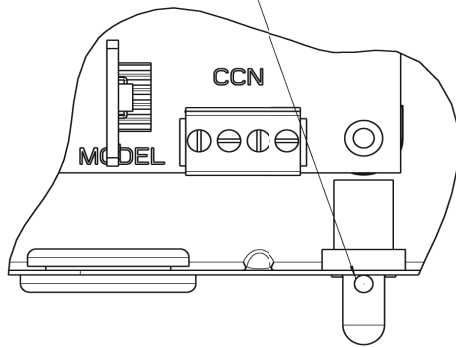
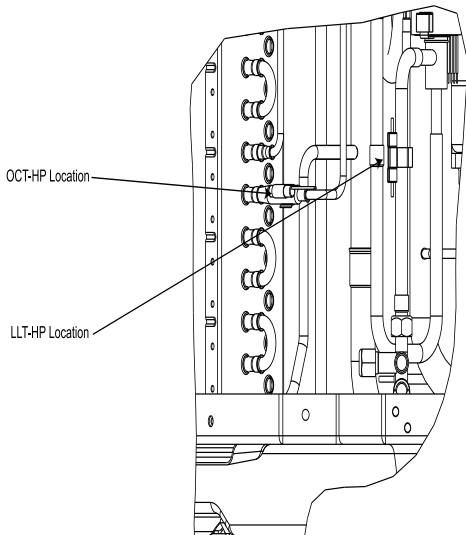
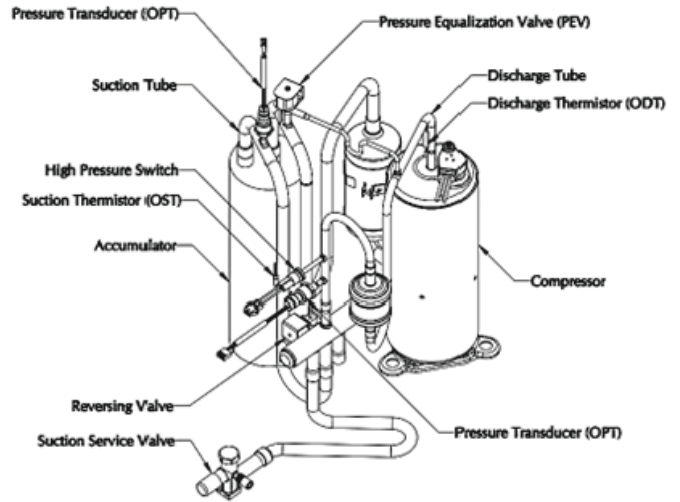

Fig. 33 – OAT Thermistor Mounting Location
Fig. 34 – OCT-HP and LLT-HP Thermistor Mounting Locations
Fig. 35 – OST Thermistor and ODT Thermistor Mounting Locations
**IMPORTANT:** The OAT, OCT/LLT, OST, and ODT thermistors should be factory mounted in the final locations. Check to ensure thermistors are mounted properly (See Fig. 33, Fig. 34 and Fig. 35).
The OAT is a 10K thermistor used for multiple system operations. It provides the outdoor air temperature to the primary control module and Infinity® System Control. It is essential for controlling the system and is used in almost all modes of operation. The sensor is mounted in the control box per Fig. 33. See Table 8 for proper resistances.
The OCT-HP Thermistor is a 10K thermistor used for multiple system operations. This sensor is connected to the PCM through a shared 5-pin connector with OAT-HP and provides the coil temperature to the primary control module and Infinity® System Control. It is used for low ambient operation, defrost control, and other system operations. The sensor must be securely mounted to the stub tube on the outdoor coil. Note that there is only one stub tube used and on most units it is the bottom circuit. See Fig. 34 for proper placement. See Table 8 for proper resistances.
The LLT-HP is a 10K thermistor used for multiple system operations. LLT-HP is connected to the PCM through a separate 3-pin connector and provides to the primary control module and Infinity® System Control. It is used for heating control and subcooling calculation during charging. The sensor must be securely mounted to the liquid tube in between the liquid service valve and the EXV. See Fig. 35 for proper placement. See Table 8 for proper resistances.
The OST is a 10K thermistor used for assisting in EXV control and must be secured on the suction tube and aligned longitudinally to the vertical surface of the tube axis (see Fig. 35). See Table 8 for proper resistances.
The ODT is a 50k thermistor used for determining discharge superheat and protecting the compressor from over-temperature operation. Proper mounting is required to reduce the influence of ambient temperature and provide accurate tube temperature. ODT is located on the compressor discharge stub-out (see Fig. 35) and should be inside the compressor sound blanket. See Table 9 for proper resistances.